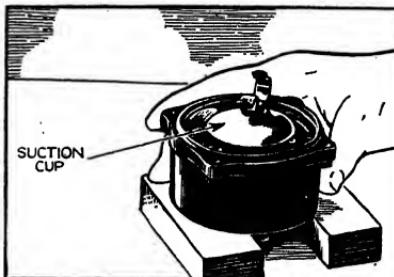

FIG. 4.—Suction cup for removing glass.
**Repair and Adjustment.**—To take apart, remove the outer snap ring, put a small screw driver or knife blade under one end of the ring, and lift it out. Use a suction cup to remove the glass. If the glass is tight, tap gently around the edge of the case (Fig. 4).